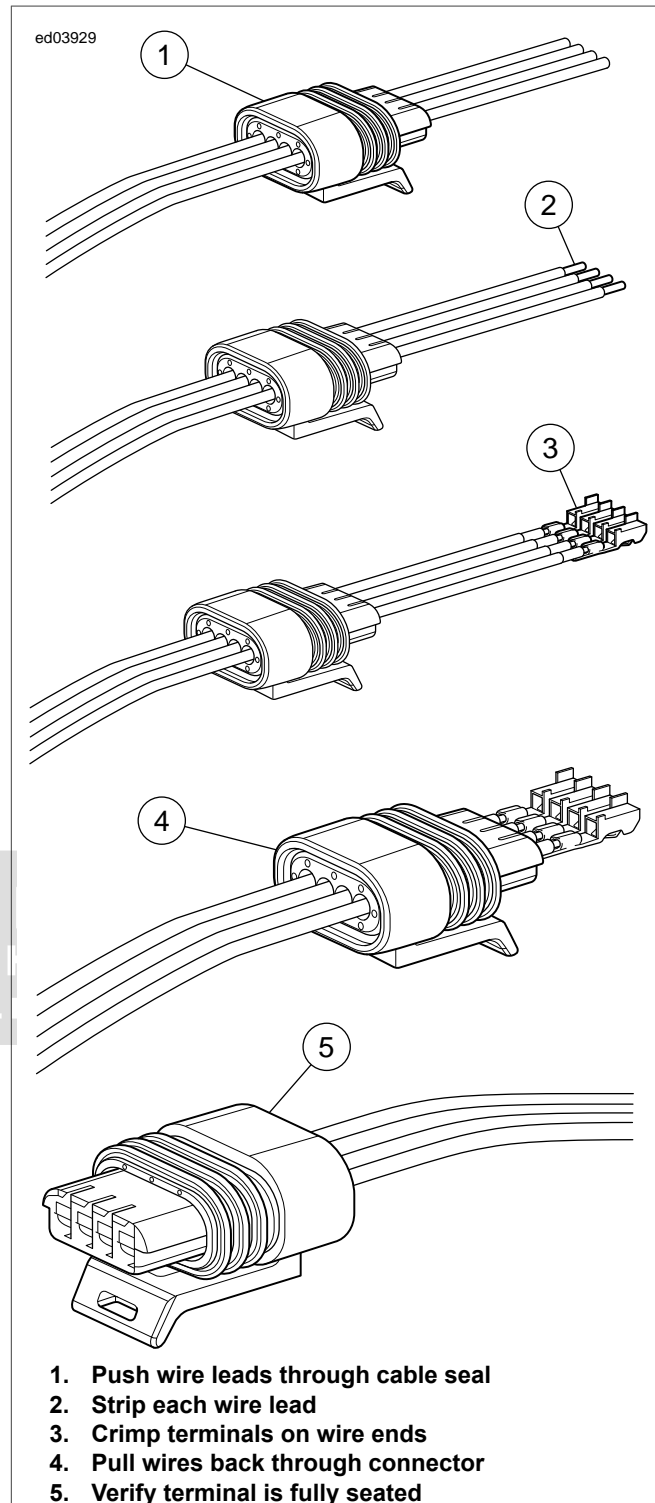

Figure B-11. Inserting Terminal Pull-to-Seat
1. See Figure B-11. Push wire leads through cable seal at least 8 in. (203 mm).